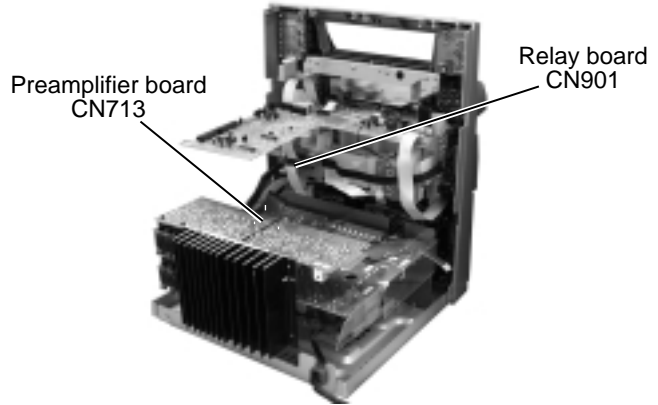

Fig.30
■ **Removing the preamplifier board / heat sink (See Fig.30 to 32)**